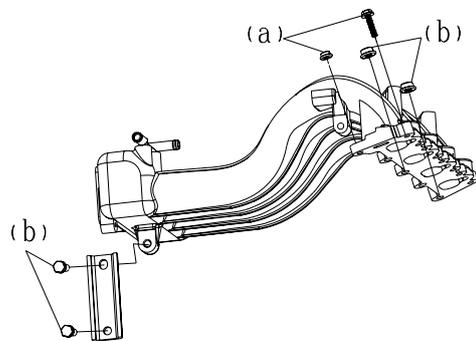

Fig.4-92
- 2) tighten screw and nut to specified torque shown as Fig.4-92.